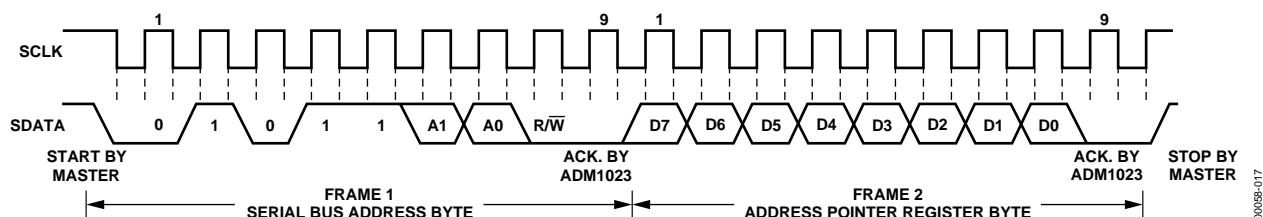

Figure 17. Writing to the Address Pointer Register Only
1. If the ADM1023's address pointer register value is unknown or not the desired value, it is necessary to set it to the correct value before data can be read from the desired data register. This is done by performing a write to the ADM1023 as before, but only the data byte containing the register read address is sent, as data is not to be written to the register. This is shown in Figure 17.